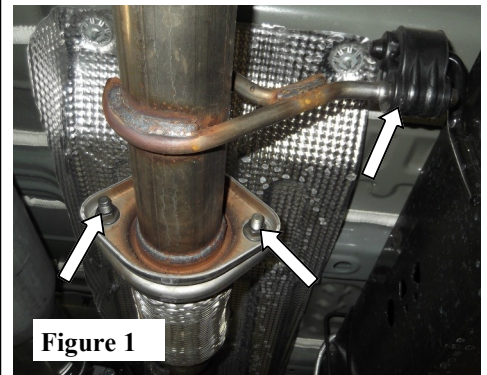

Figure 1
1. Unbolt the flanges and remove hanger from robber isolator, place hardware to the side for use during the installation of your new exhaust system. (See Fig. 1)